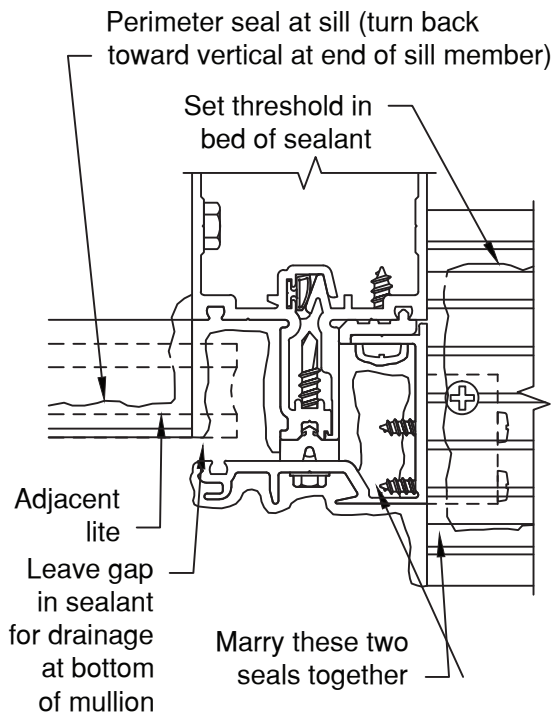

FIGURE 43
C.3.5 Bed threshold in sealant, attaching to TH-44 clips with FS-42 #12 x 1/2" Phillips Flat Head screws. Marry threshold seal with subframe and main system seal. **SEE FIGURE 43, page 35.**